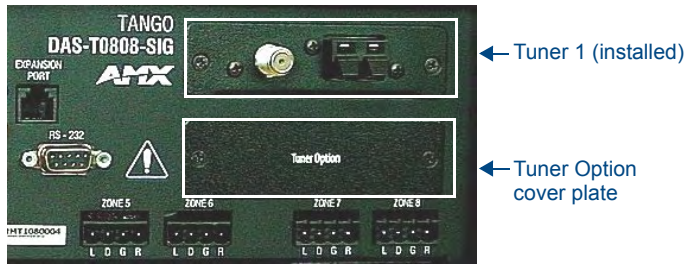

FIG. 1 Rear Panel Tuner with Tuner Option cover plate
2. With the back of the unit facing you, remove the screws from the Tuner Option cover plate at the right top corner of the rear panel (FIG. 1) and remove the plate. Retain the screws, as they will be used to install the tuner.